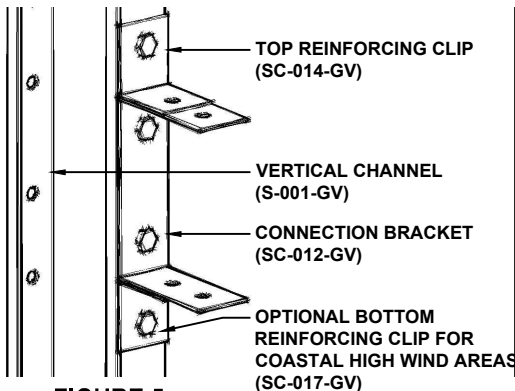

FIGURE 5
1. **Figure 5** - Structural Connection Detail - Top Reinforcing Clip (SC-014-GV), Connection Bracket (SC-012-GV) and optional bottom Reinforcing Clip (SC-014-GV) (for coastal high wind areas) all connected with $\frac{3}{8}$ " bolt/nuts. **ALWAYS INSTALL THE TOP REINFORCING CLIP (SC-014-GV).**